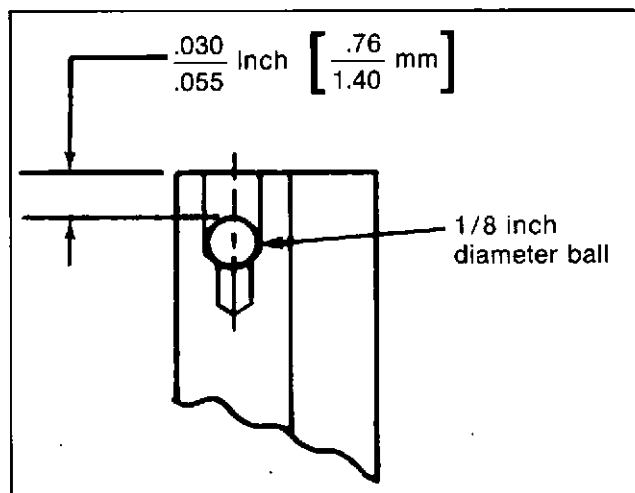

Fig. 2-19. Measure the check ball depth
- b. The depth of the check ball must not be more than 0.055 inch (1.40 mm), Fig. 2-19.